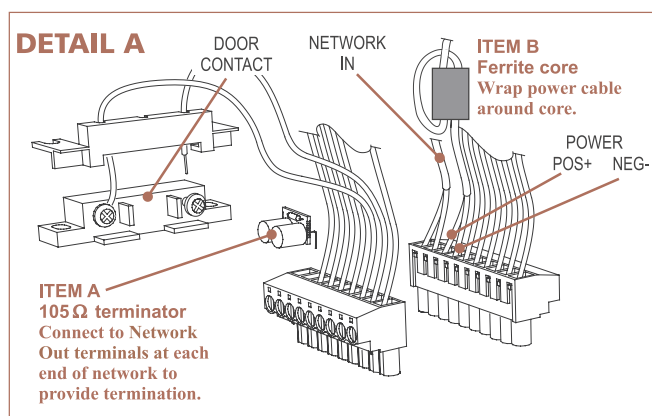

Figure 1: Wiring the terminal block
If the Exciter is at the end of the network, then terminate the network segment with Item A (105 Ω terminator). Refer to **Figure 1**, and insert the terminals into the connectors on the Exciter.
- C If using surface wire conduit, attach the four supplied bumpers (Item B in **Figure 1**) to the underside of the Exciter.